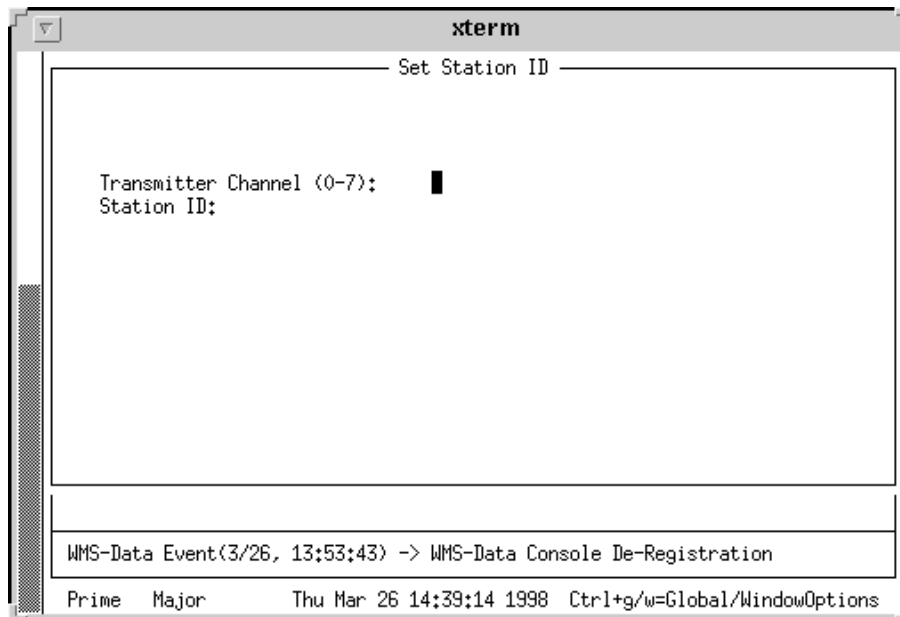

Figure 7-16: Set Station ID Screen
3. Enter the transmitter channel number to add and press: **<Return>** (see Figure 7-16). Valid values are 0-7.